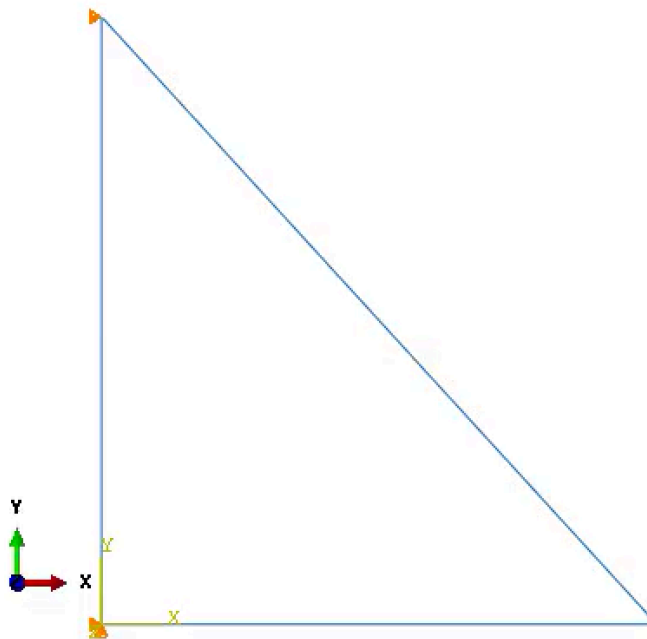

Figure 27 Displaying constrained degrees of freedom in the viewport
- Abaqus/CAE displays small orange arrowheads in the direction of constrained degrees of freedom (Figure 27).